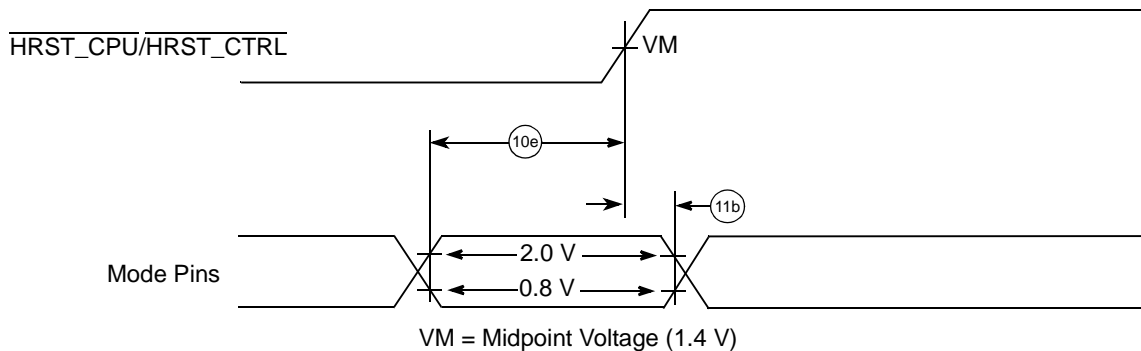

Figure 10. Input Timing Diagram for Mode Select Signals
- All mode select input signals specifications are measured from the TTL level (0.8 or 2.0 V) of the signal in question to the $V_M = 1.4\text{ V}$ of the rising edge of the HRST_CPU/HRST_CTRL signal. See Figure 10.
Figure 10 shows the input timing diagram for mode select signals.